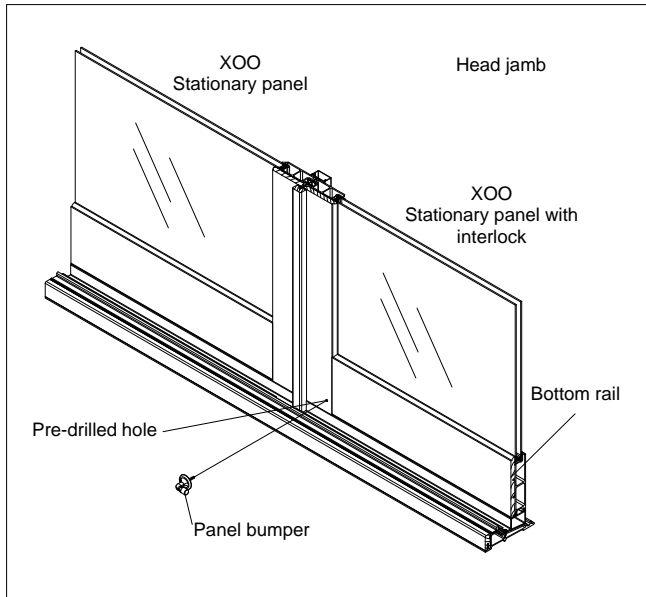

Figure 8
- Attach stop bumpers to top and bottom of stationary panel in pre-drilled holes, ensuring bumper head is positioned towards the operator panel as shown in figure 8.